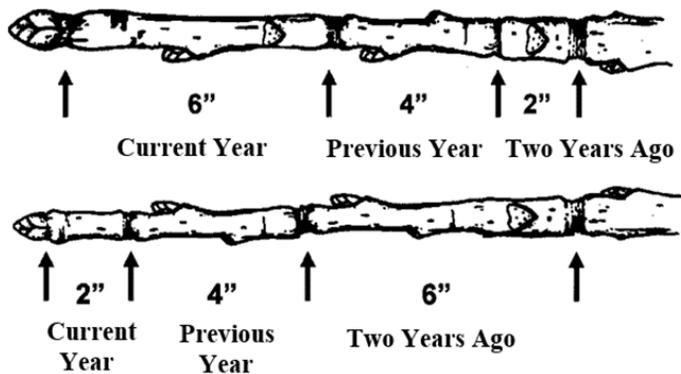

Figure 15. Comparison of annual growth.
- Reduced canopy growth. Compare how annual growth changes from year to year. [Figure 15]